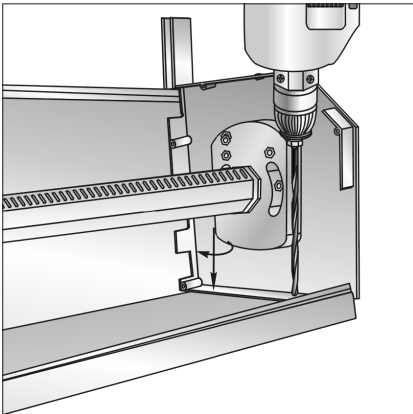

Fig. 9
- for built-in mounting – drill two holes in the upper flanged edge of each cover (Fig. 9);